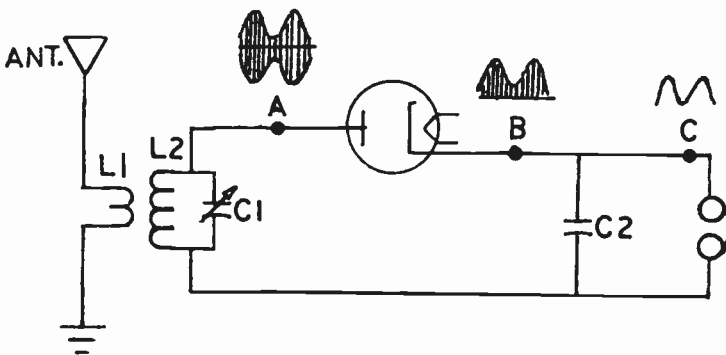
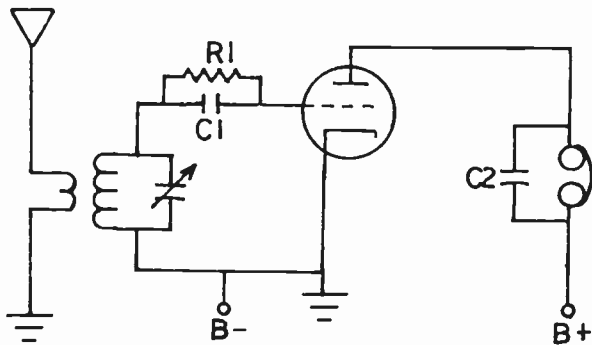
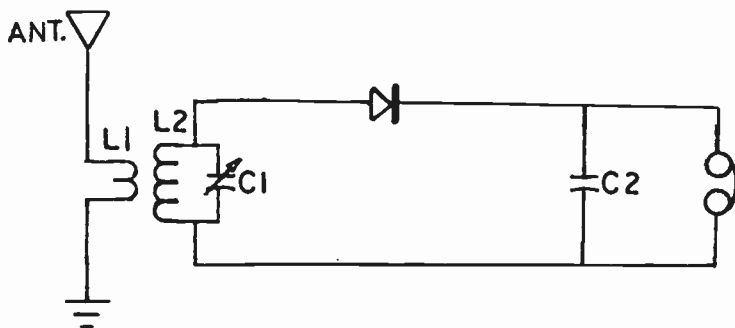

FIG. 15-1. DIODE DETECTOR.
FIG. 15-2. GRID-LEAK DETECTOR.
FIG. 15-3. A SOLID-STATE DETECTOR CIRCUIT.
**THE DIODE DETECTOR.** Fig. 15-1 illustrates a diode detector. With its antenna, ground and headphones, it is a simple one-tube receiver. Let us see how this circuit operates.
Once we choose the desired signal, we can then proceed to "detect" the information in this signal. In Fig. 15-1, we show the waveshape of the signal as it appears at different points of the circuit. Notice the wave at point A, the output of the tuned circuit. The upper half is exactly the same as the lower half. Since the audio is represented by a line joining the peaks of the wave, we actually have the audio duplicated in the upper and lower halves of the signal. Either the upper or the lower part of the signal must be removed because the upper audio signal which is positive, and the lower audio signal, which is negative, would cancel each other when the RF component of the signal is removed. Removing the upper or lower half of the signal will in no way harm the audio intelligence, since each half of the signal contains the complete audio information.
**3 THE GRID-LEAK DETECTOR.** The grid-leak detector is actually a combination of a diode detector and an amplifier. This can easily be realized by looking at the grid-leak detector in Fig. 15-2. Consider the grid as the plate of the diode detector. The grid-leak resistor, R1, acts as the load of the diode detector in the same manner as the earphones of Fig. 15-1.
**3 THE SOLID-STATE DETECTOR.** Although Fig. 15-1 shows a tube used as a diode detector, solid-state detectors are more commonly employed for a number of reasons. Unlike a tube, a semiconductor does not require filament voltage. Semiconductor crystal diodes are also light in weight, do not require a socket, and can be wired into position as easily as any resistor. Also, since no heating time is needed, crystal diodes work immediately.
Fig. 15-3 illustrates a typical semiconductor detector circuit. The only difference between this circuit and Fig. 15-1 is that the diode tube has been replaced by a semiconductor diode. The operation of both circuits is the same.